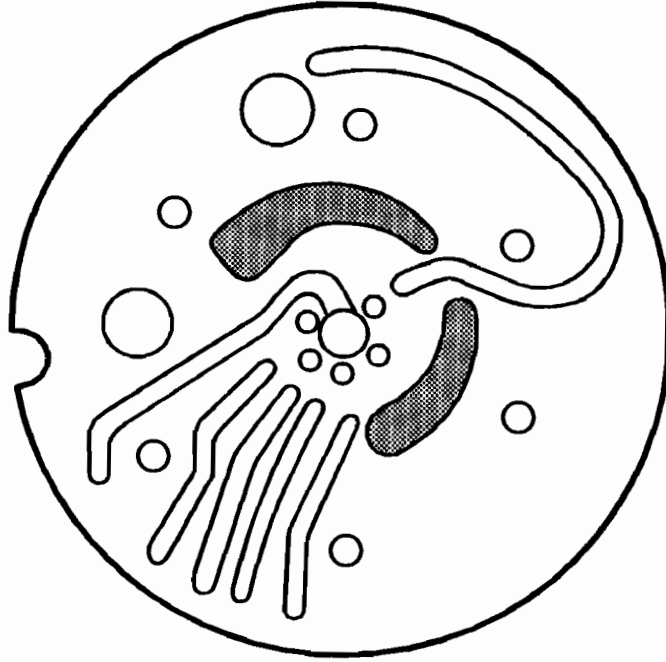

Figure 3
**PUMP SUPPORT** - New design level has different cavities and we have highlighted the cavities that are different for identification purposes, as shown in Figure 3.